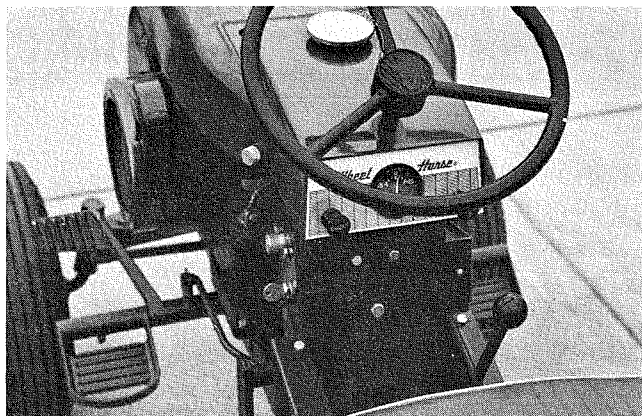

Figure 5
8. Bolt the pump mounting bracket (part number 4816) to the hood stand using the same holes where the switch and starter button were removed. Use two (2) $\frac{1}{4}$ -20 nylock nuts (part number 1406), two (2) $\frac{1}{4}$ -20 x $\frac{5}{8}$ Hex Head Cap Screws (part number 1428), the $\frac{3}{8}$ -16 x $\frac{3}{4}$ Hex Head Cap Screw (part number 1423), the $\frac{3}{8}$ flat washer (part number 1434), and the $\frac{3}{8}$ -16 nylock nut (part number 1408). (See Figure 5)